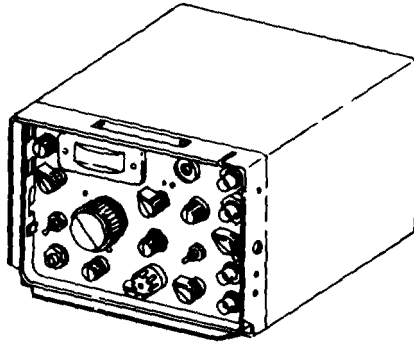

Figure 1-4. Receiver R-1518/UR
b. Receiver R-1518/UR. Refer to figure 1-4. Receiver R-1518/UR is a solid-state superheterodyne VHF radio receiver with a frequency range of 19.0 to 157.5 MHz and is capable of operating in AM, frequency modulated (FM), and continuous wave (CW) modes. All operating controls, switches, and indicators are located on the front panel. An internal battery provides operating voltage. Refer to TM 11-5820-770-14 for additional information.